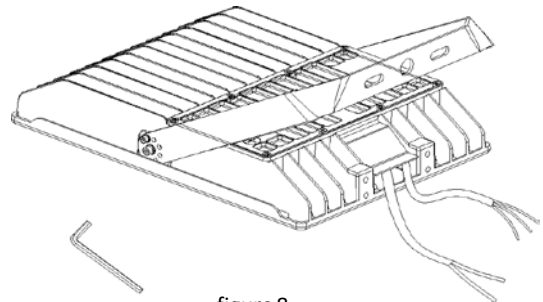

figure 8
1. Attach yoke to head using hex wrench. (see fig 8)